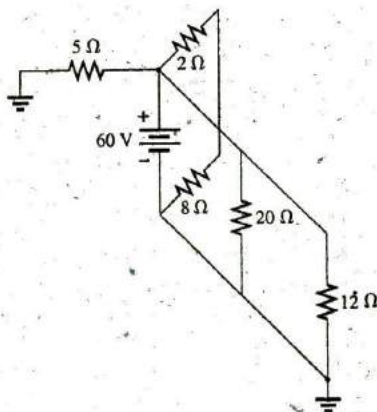

FIG. 6.90
21. Determine the power delivered by the dc battery in Fig. 6.90.